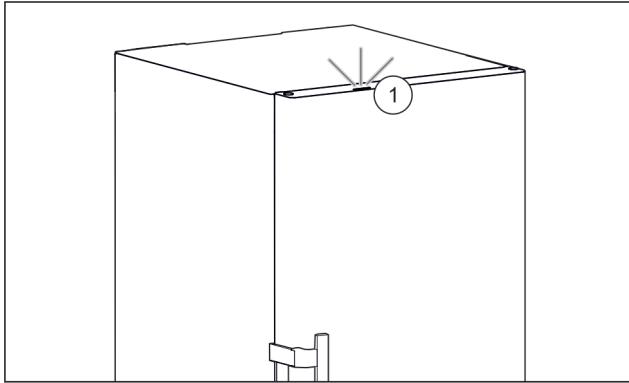

Fig. 42 Active status light when the door is closed
- Status light Fig. 42 (1) is activated.